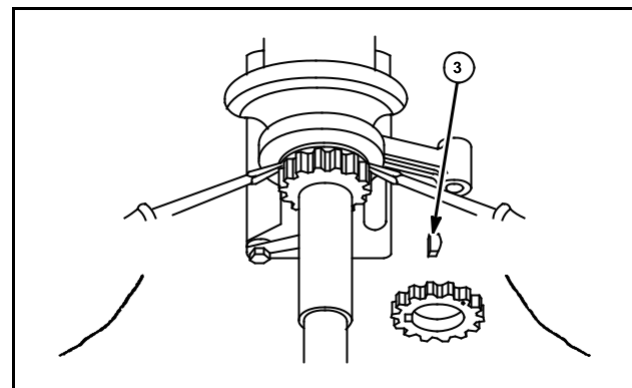

Fig. 9
5. Remove crankshaft gear. If gear is tight, pry gear off with two screwdrivers, Fig. 9. Do not damage gear.
NOTE: Save timing gear key on Model Series 171700. On current production Model Series 252700, 253700, 255700, 256700, and all 280000 engines the woodruff key (3) can be removed if required, Fig. 9.